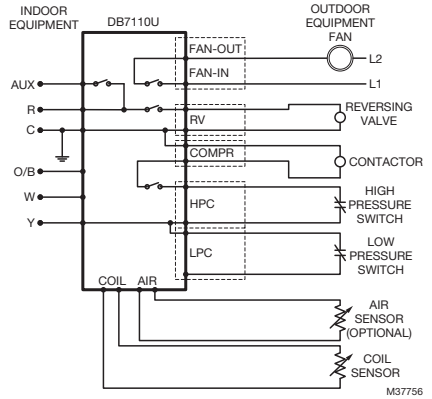

Fig. 5. Wiring diagram with pressure switches connected to defrost control.
5. Reference the wiring diagrams in Figs. 5 to 8 to aide in proper appliance wiring.